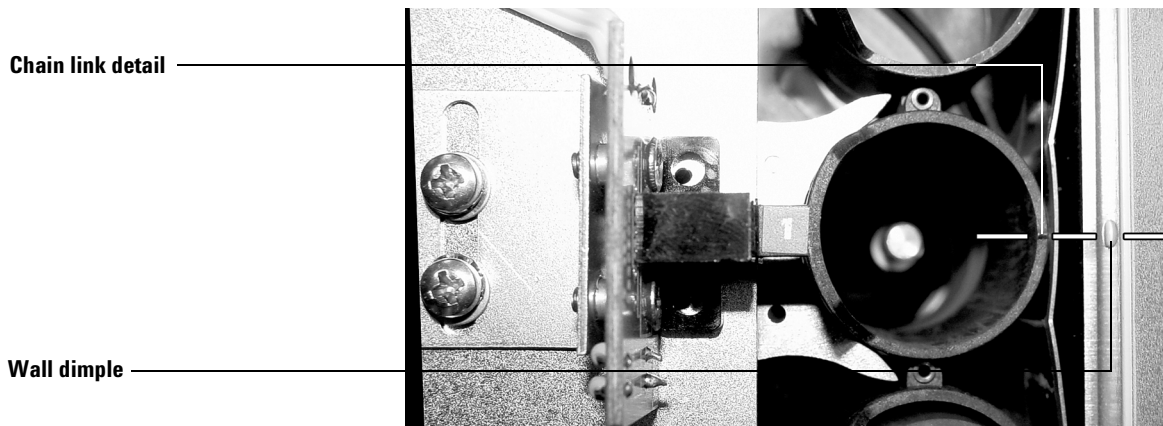

Figure 20 Tray chain alignment
- 3 Verify that the detail on the tray chain link lines up with the dimple on the tray wall. See Figure 20. If it does not align call an Agilent service representative.